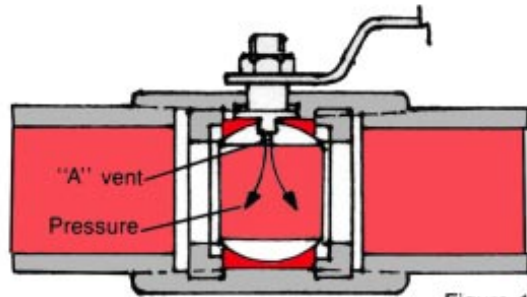

Figure 1
2. Use a valve with a relief hole drilled in the steam slot ('A' vent). This works when the heated media is the culprit (Figure 1).